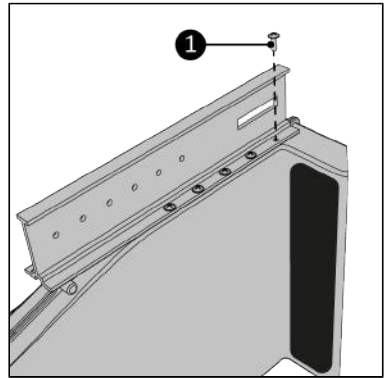

Figure 70.
6. Screw the main rail to the Way-out using the ten 3,5 x 10 mm screws (Figure 70, pos. 1). Make sure all screw holes match up.